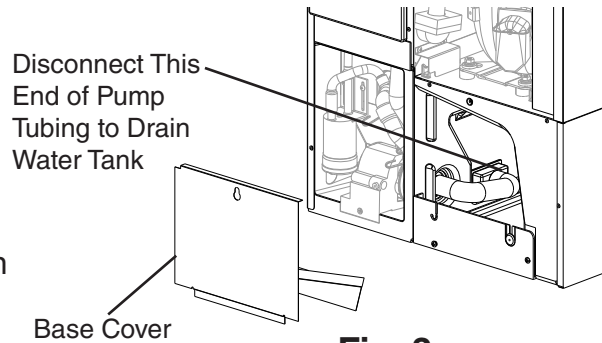

Fig. 3
- a) On KM-320M_H, KM-515M_H, KM-600M_H, KM-650M_H, and KM-901M_H, remove the base cover, then disconnect one end of the pump tubing to drain the water tank. See Fig. 3. After the water tank has drained, reconnect the pump tubing.